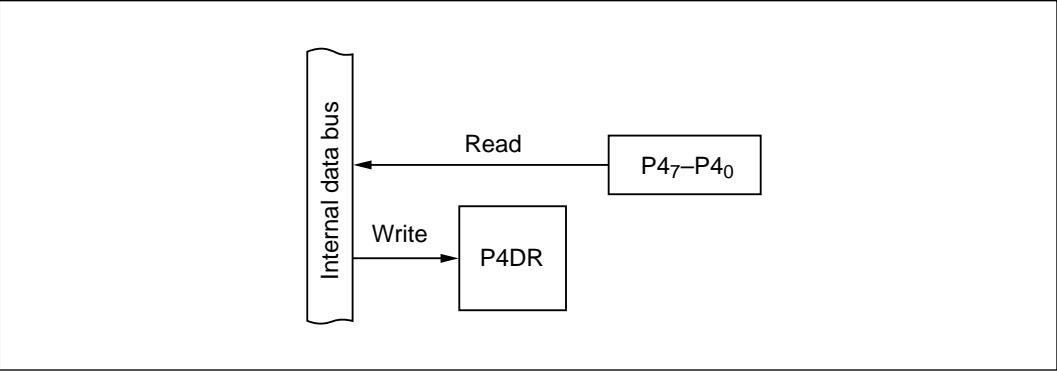

Figure 10-22 Input Port (Modes 1 to 7)
(1) Input Port (Modes 1 to 7): Figure 10-22 shows a block diagram illustrating the general-purpose input function. Table 10-16 indicates register read/write data. Values written in the port 4 data register (P4DR) have no effect on general-purpose input lines. When read, P4DR returns the value at the pin.